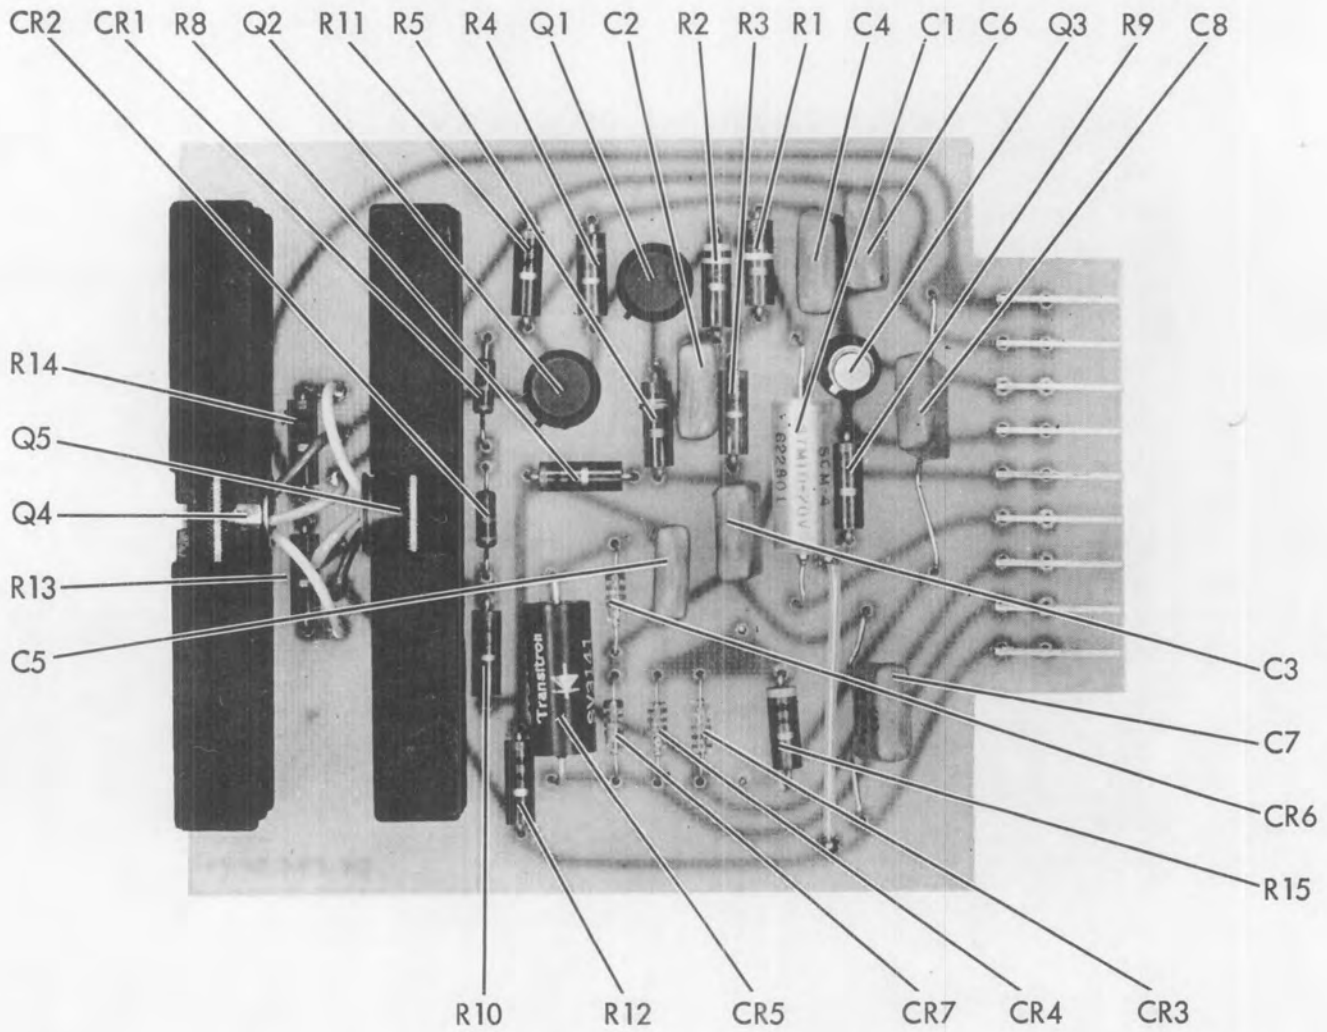

Figure 18. Video Board, Component Location
Refer to figures 18 and 24.
1. The AM output is checked through an emitter follower (figure 18) on video amplifier module A9. When making AM output measurements, use a 1.0 mfd coupling capacitor between the receiver and the load.